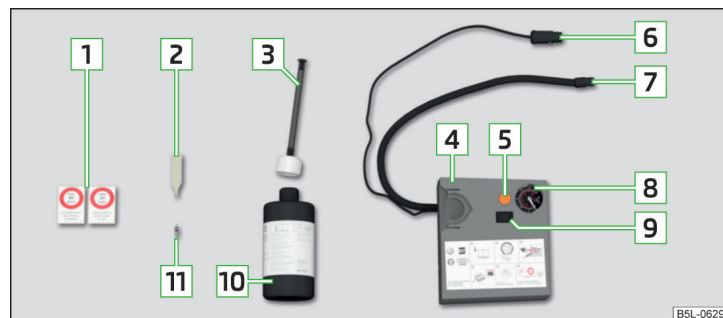

Fig. 326 Description of puncture repair kit
- Insert the valve remover » Fig. 326 on page 290 on the valve insert, so that the valve insert fits into the slot of the valve remover.
- Screw the air compressor tyre inflation hose » Fig. 326 on page 290 firmly onto the tyre valve.